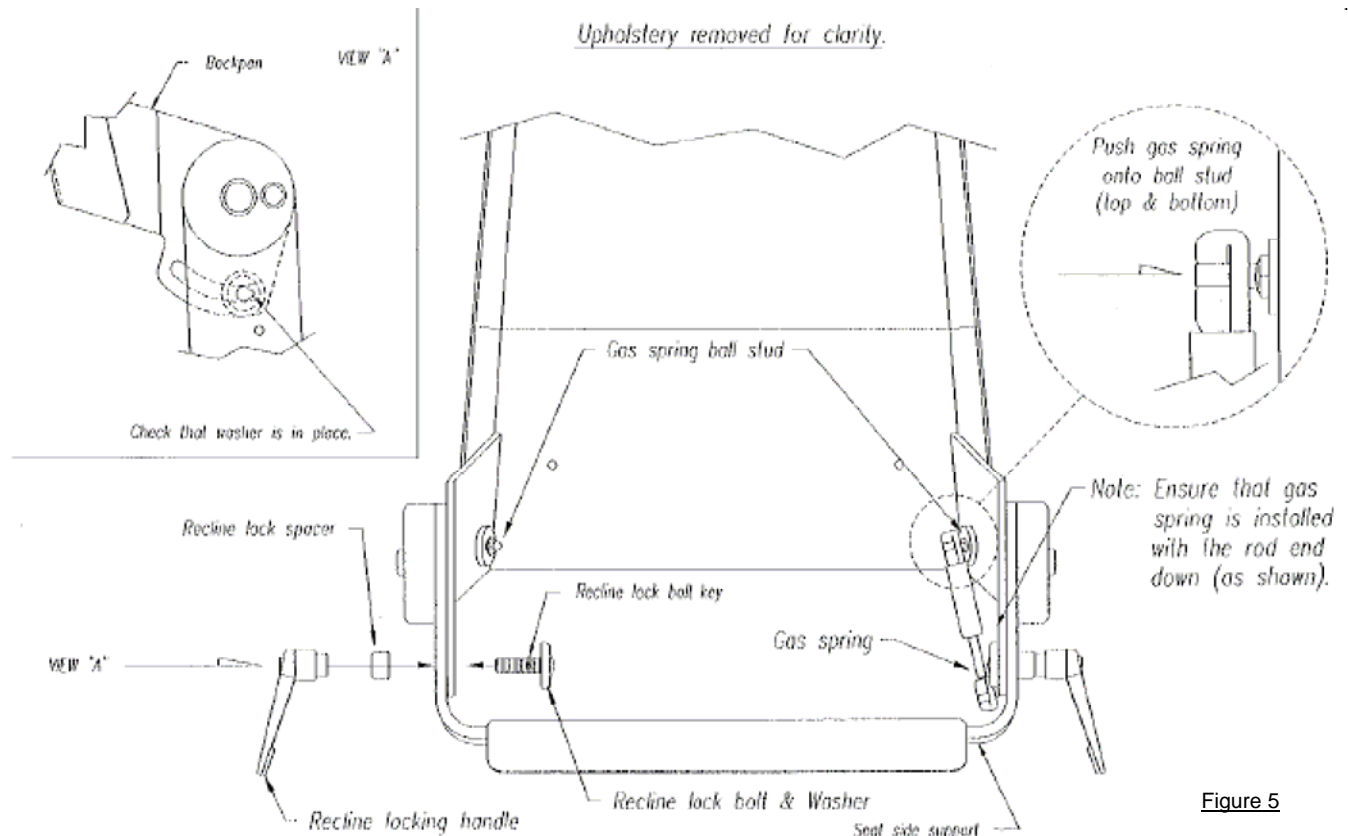

Figure 5
6. Install Backrest Hardware: (refer to Figure 5)
7. Install Backrest Gas Springs: (refer to Figure 5)